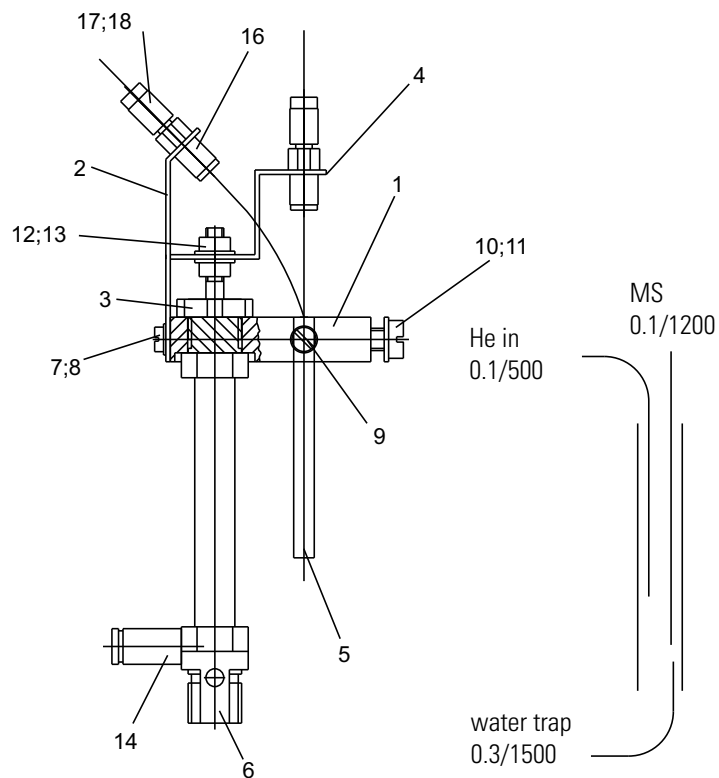

Figure 7-5. Sample open split
Figure 7-5 shows the sample open split, P/N 1041761. The glass tube of the sample open split (pos. 5 in Figure 7-5) has an ID of 0.8 mm and the P/N 1183040.
The flush gas amount recommended is 500 mL. This means to switch on Flush Fill for 300 s, if the flow is 100 mL/min. Adjust the time to smaller values, if the flow is higher or to higher values, if the flow is lower. For details, see Figure 7-4 and Figure 7-5.